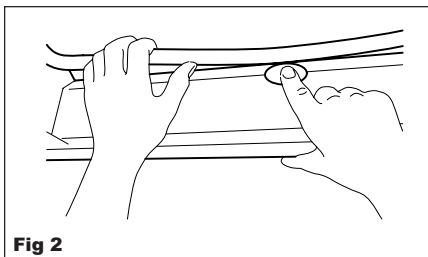

Fig 2
- (i) To open, push the large central button (Fig 2).
Please ensure you return the locking plate to its normal position (see fig 2) if you wish to remove the wrap round seating.